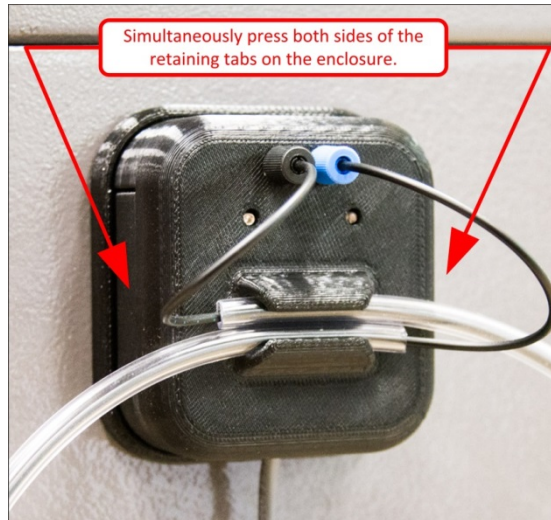

Figure 7: AFOS-WL Installed
There are two main parts of the assembly; (1) Enclosure, (2) Cradle. The enclosure houses the electronics and termination points for field installation with 4 screws to retain a back cover plate (refer to Figure 6). The cradle is attached to the asset and retains the enclosure when fully installed (refer to Figure 7).
**Step 2.** Locate the Bluetooth pairing button on each device (See Figure 10 - Receiver pairing button & Figure 7: AFOS-WL Installed). Note that you will have to press both buttons within 60 seconds of one another in the following steps so read all of the instructions before proceeding.